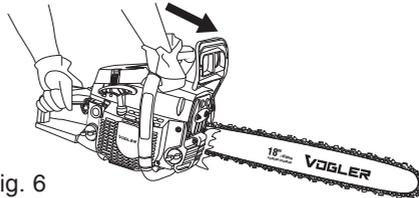

Fig. 6
•While the unit is running, squeeze the throttle control trigger to about 1/3 throttle, then engage the chain brake by pushing the chain brake lever forward with your left hand (Fig. 6).